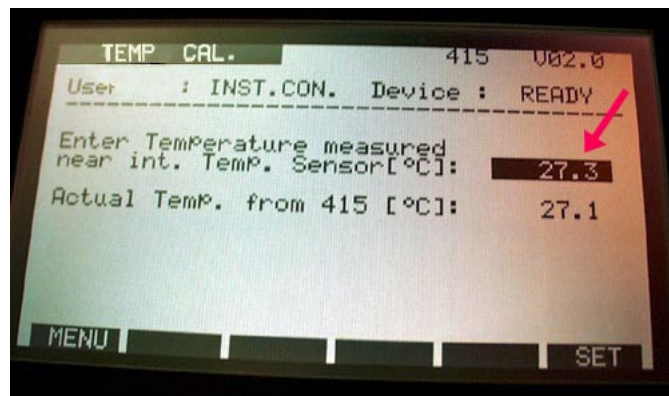

Figure 2
- 104 At the MTS-PowerTek Instrument Controller, scroll down with the arrow and highlight “TEMP CAL”. See Figure 2.
- 106 Enter the current temperature near the Smoke Meter. See arrow in Figure 2.